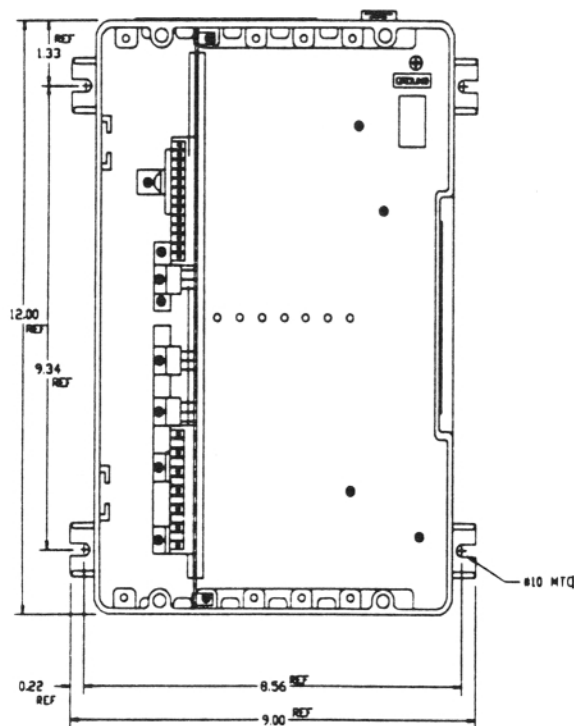

FIGURE 1. CONTROLLER MOUNTING DIMENSIONS
6. Mount the controller Mounting dimensions are shown in Figure 1.